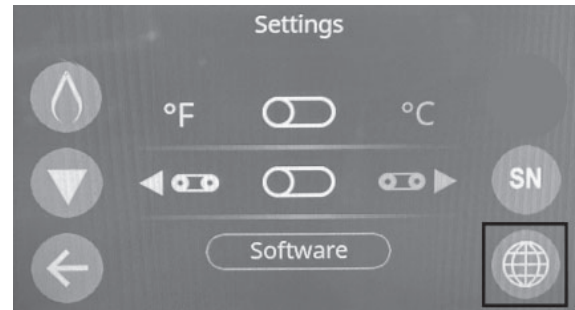
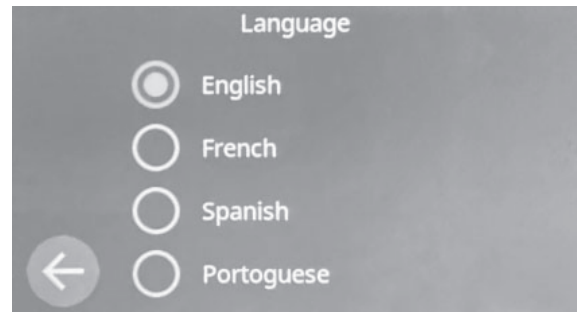

Figure 29
Figure 30
7. Display Language - From the main settings screen, press the  highlighted below in (Figure 29) to change the display language in the UI. (Figure 30)